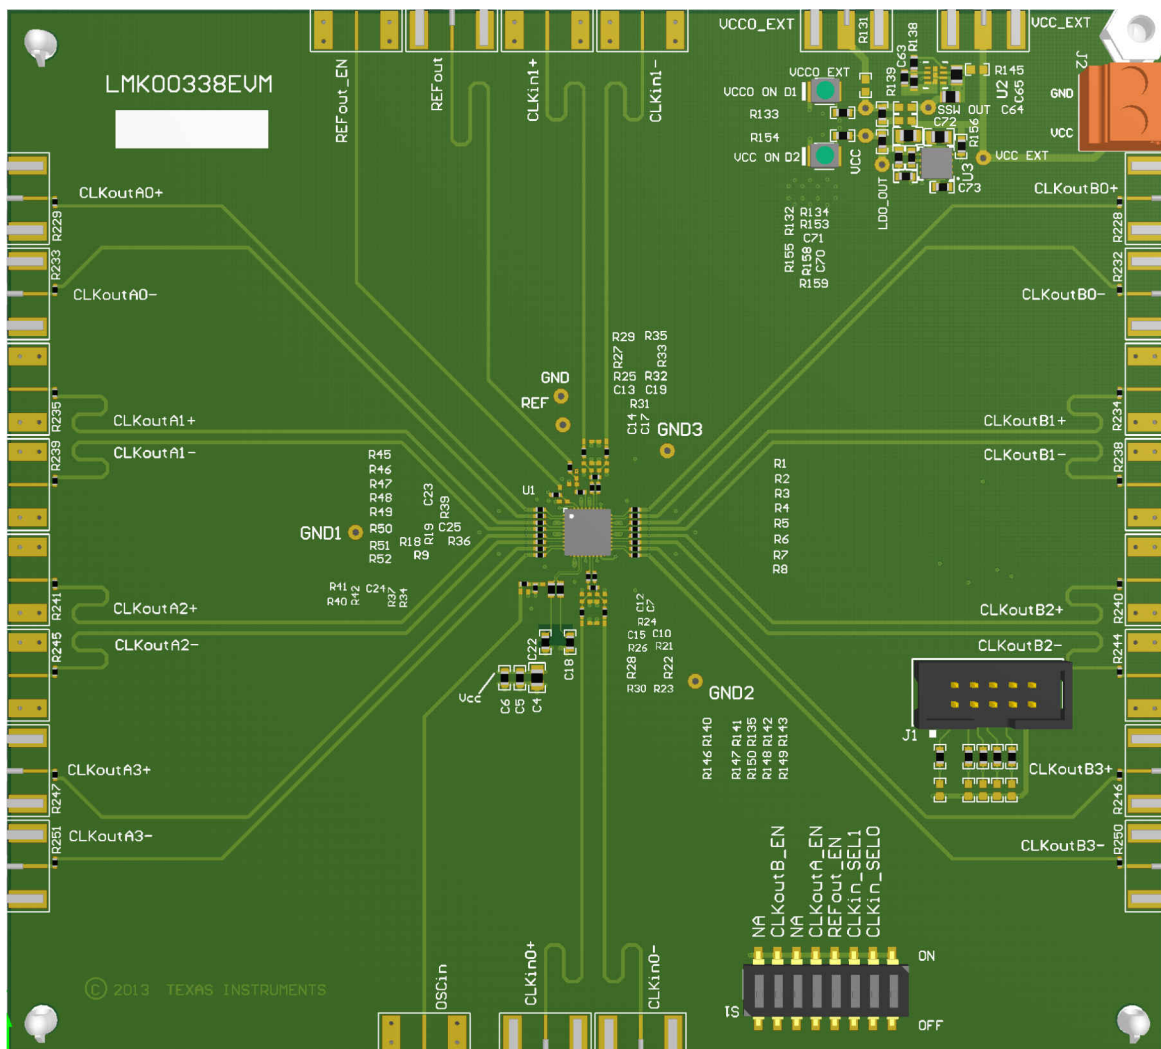

Figure 11-1. LMK00334-Q1 Layout Example
- For DC-coupled operation of an HCSL driver, terminate with 50 Ω to ground near the driver output as shown in Figure 11-1.